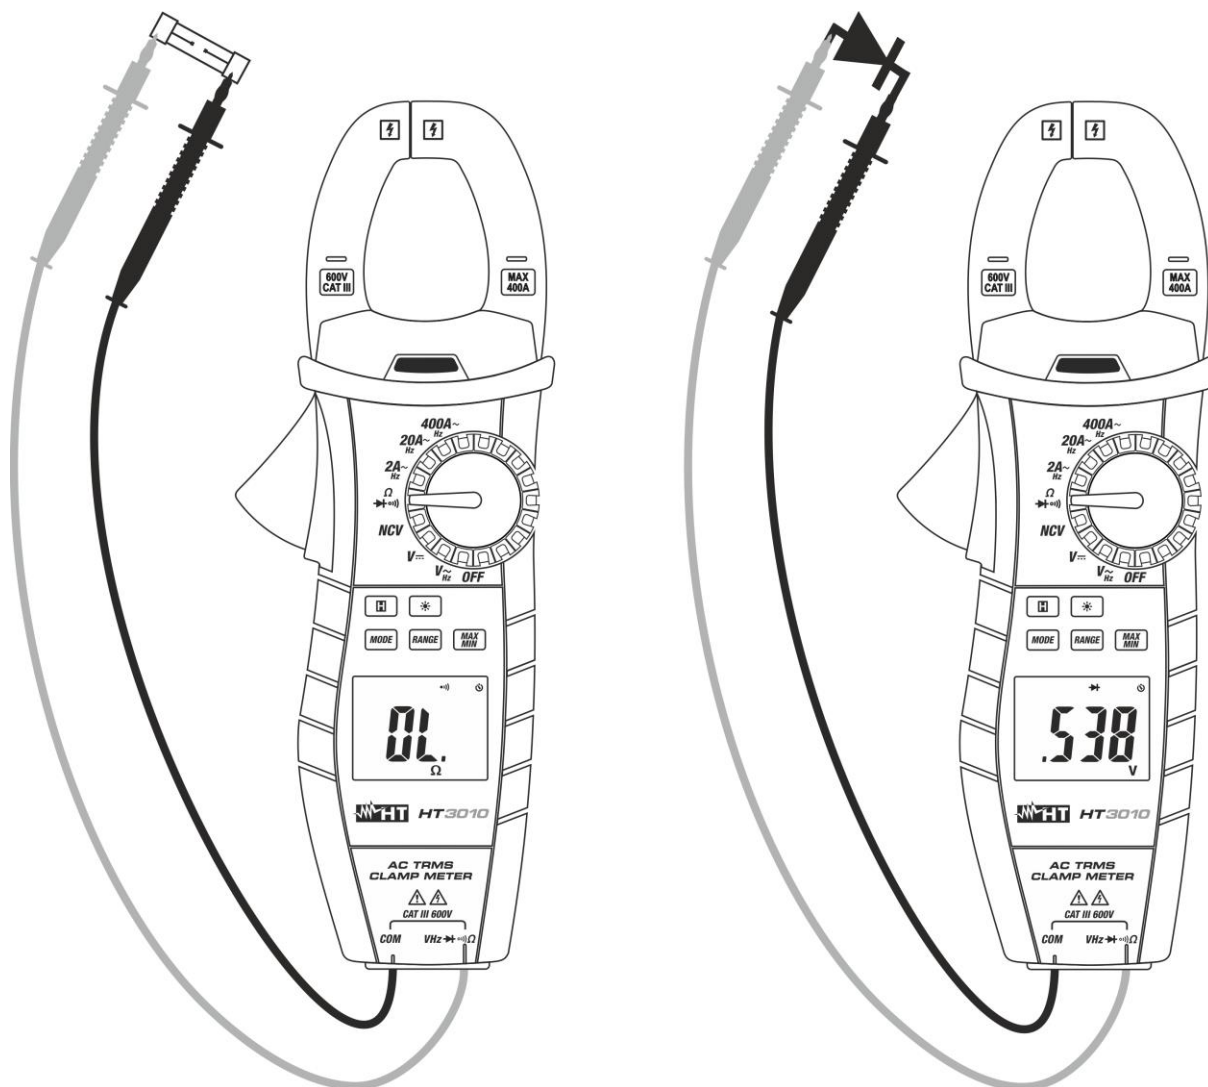

Fig. 7: Use of the instrument for continuity test and diode test
3. Insert the red cable into input terminal **VΩHz** and the black cable into input terminal **COM** and carry out the continuity test of the object to be measured (see Fig. 7– left side). An buzzer sounds when the measured value of resistance is lower than 30Ω
5. Connect the red lead to the anode of the diode and the black lead to the cathode in case direct polarization measurement is carried out (see Fig. 7 – right side). Invert the position of the leads in case reverse polarization measurement is carried out.